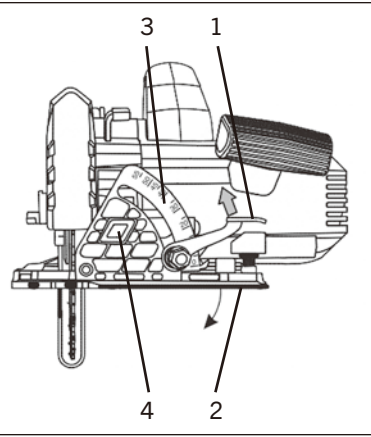

FIG. 5
2. Set the bevel angle to 0° (Fig. 5).